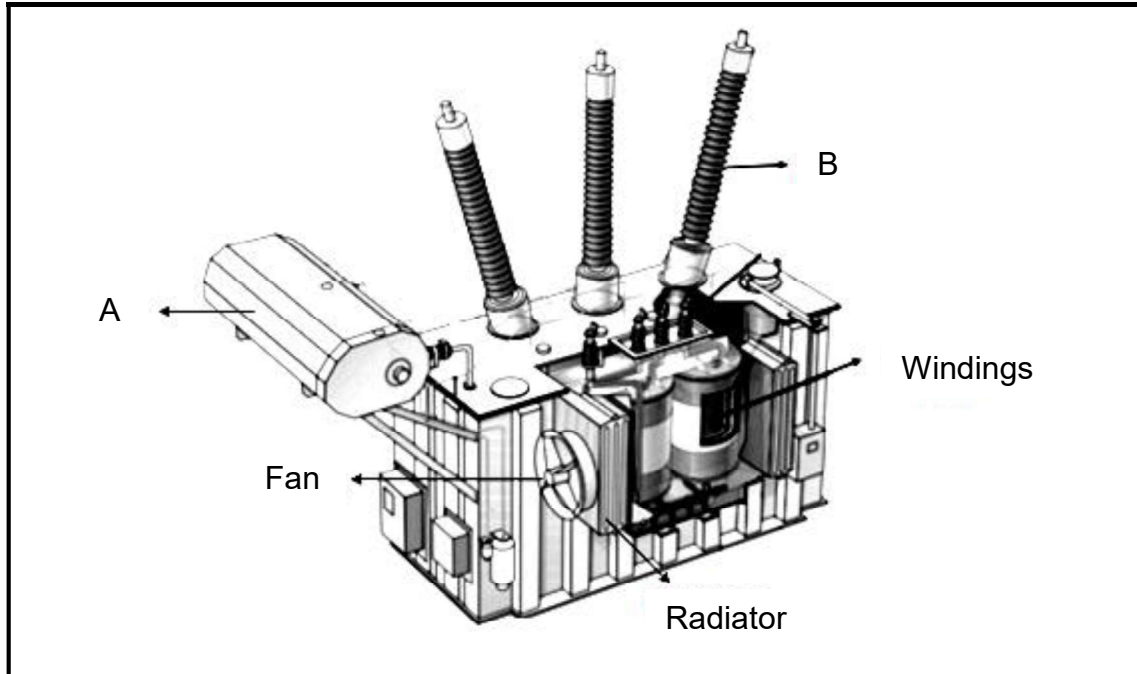

FIGURE 5.1: THREE-PHASE TRANSFORMER
5.1 FIGURE 5.1 below shows a three-phase transformer. Answer the questions that follow.